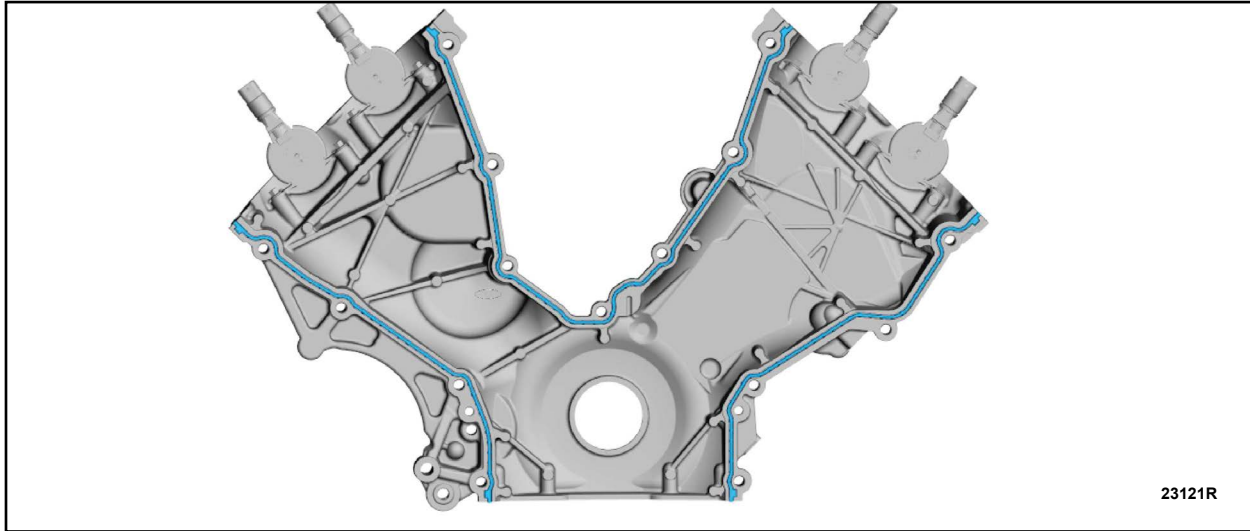

FIGURE 15
29. Install *new* gaskets on the *new* engine front cover. See Figure 15.